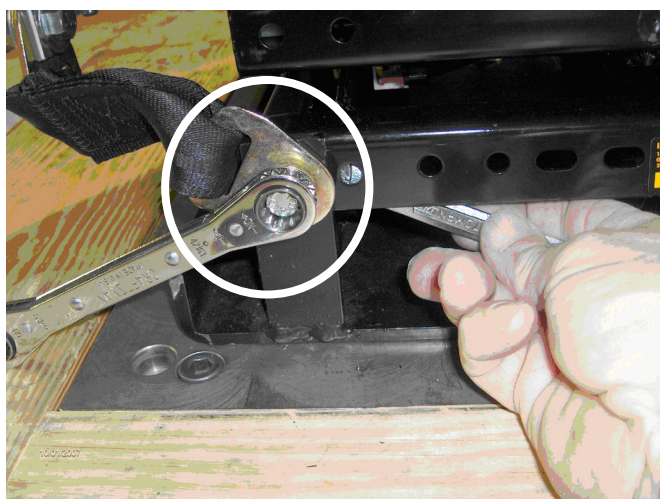

Figure 4
5. The bottom bolt is a tight fit, but a 1/2" open-end wrench will fit inside the channel to hold the nut. Angle the belt up at about a 30-degree angle as you tighten. Install the tether on the other side of the seat in the same sequence (*Figure 4*).